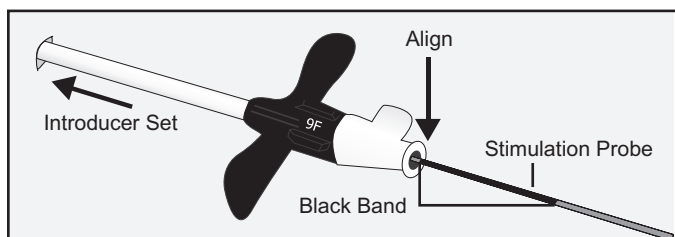
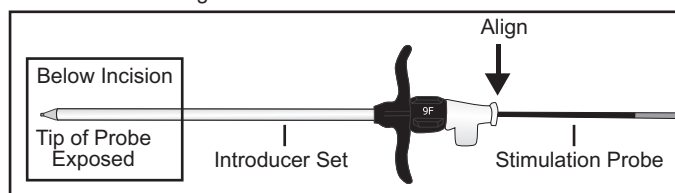

Figure 18: Distal Edge of the Black Band on Stimulation Probe Aligns with Proximal End of Introducer Set
Figure 19: Position of Tip of Stimulation Probe
- Advance the Introducer Set toward the stimulation end of the Stimulation Probe until the entire black band on the probe is visible. Align the distal edge of the black band on the Stimulation Probe with the proximal end of the Introducer Set (see Figure 18). In this position, only the tip of the stimulation end of the probe is protruding from the dilator at the target stimulation point (see Figure 19).